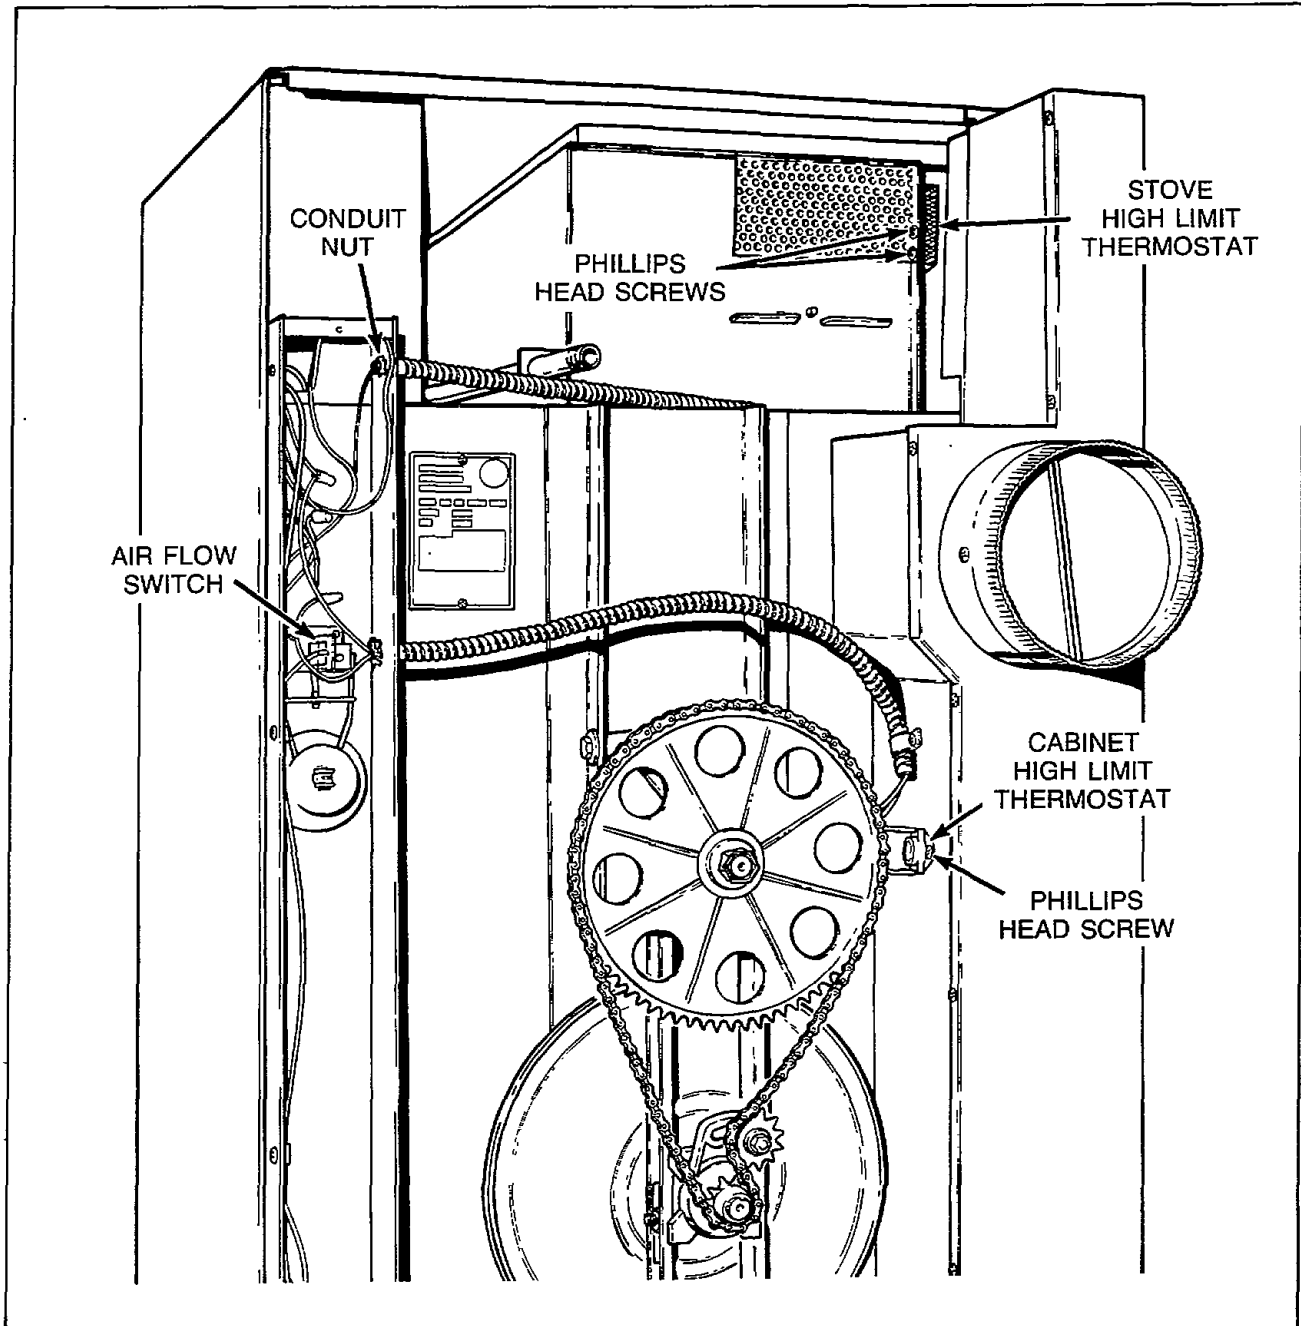

Figure 29
- b. Remove two Phillips head screws at rear of tumbler holding thermostat and bracket to stove, *Figure 29*.
- d. Remove nut holding conduit to wire way, *Figure 29*, and disconnect conduit from wire way.
- e. Disconnect blue wire from airflow switch, *Figure 29*, and remove orange wire from wire nut.
- b. Disconnect wires from thermostat, *Figure 29*.